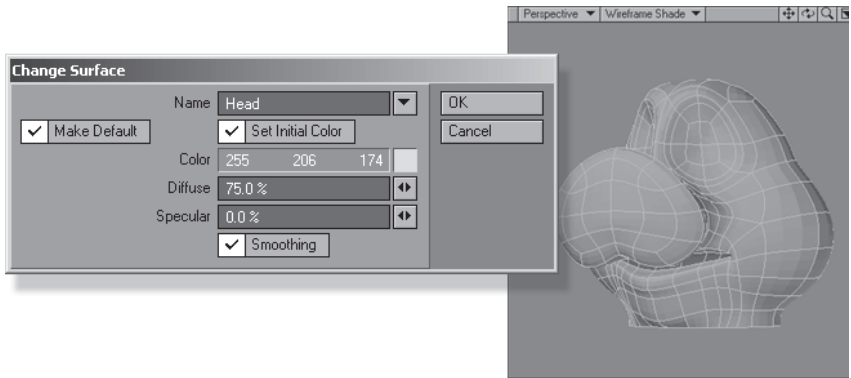

Figure 5.3-36. Head surface.
14. Since we're already surfacing we might as well assign a surface to the rest of the head. Remember that the back of the head is hidden, and before surfacing it needs to be visible. **Unhide All** (****), then **Invert Selection** (**Shift + '**), **Change Surface** to **Head**, and use the other settings from Figure 5.3-36.